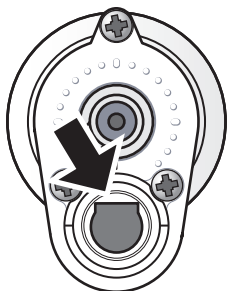

**Fig.18**
- b)** Make sure the valve spindle has the 'flat' and keyway slot uppermost (12 o'clock position) as shown in **fig.18**.
- d)** Make sure the valve spindle has the 'flat' and keyway slot uppermost (12 o'clock position) as shown in **fig.18**.